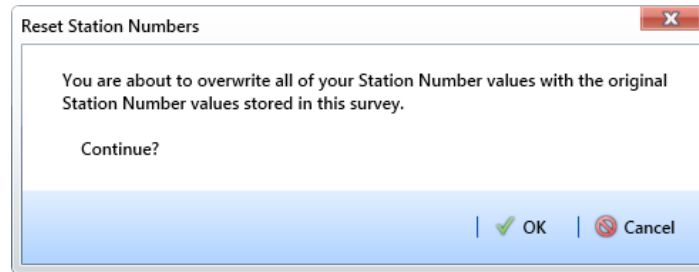

Figure 7-101. Reset Station Numbers
- Click **Apply**. When the *Reset Station Numbers* message displays, click **OK** to reset all station numbers or **Cancel** to cancel the operation (Figure 7-101).